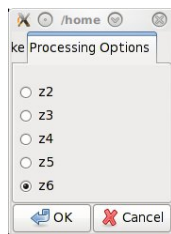

Figure 5.11: OOF Processing Options.
**Step 3.** Select the maximum order of fit to process from the “Processing Options” tab of the pop-up window (Figure 5.11).